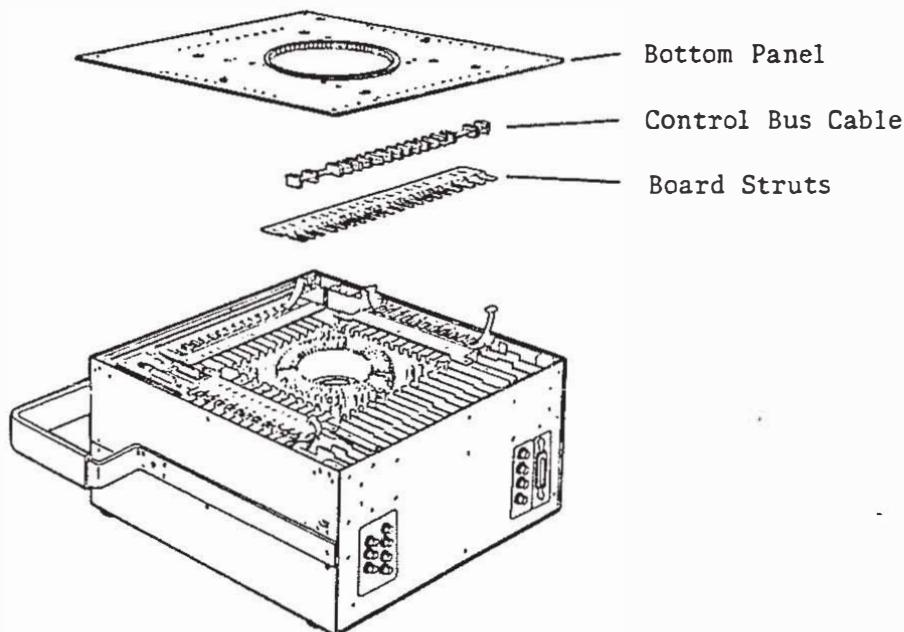

Figure 4-6. Pin Board Access
2. Using the furnished screwdriver, remove the bottom panel from the 4085A. Then remove the necessary board struts and control bus cables. Refer to Figure 4-6.